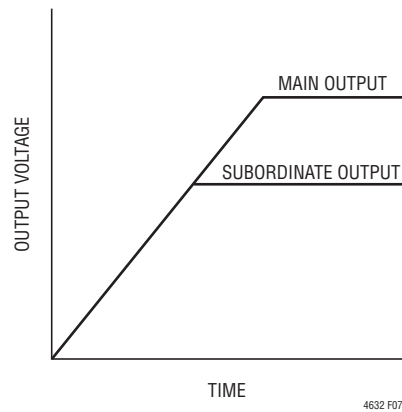

Figure 7. Output Coincident Tracking Waveform
The coincident output tracking can be recognized as a special ratiometric output tracking which the main’s output slew rate (MR) is the same as the subordinate’s output slew rate (SR), as waveform shown in Figure 7.